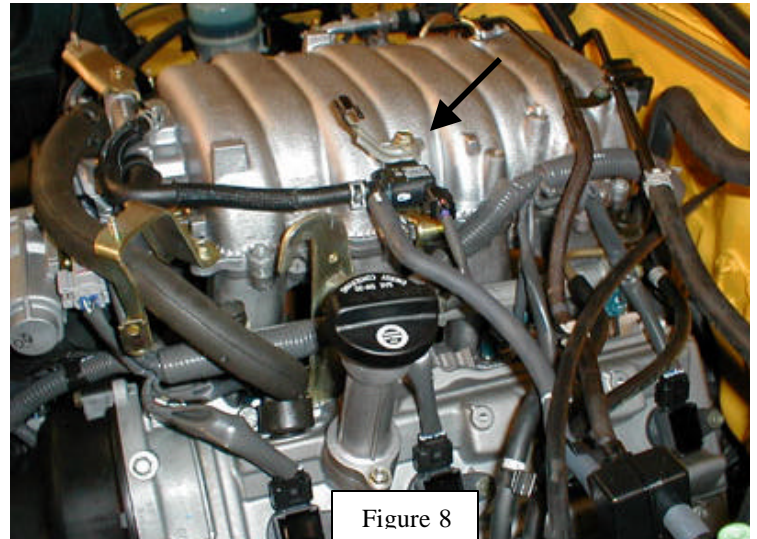

Figure 8
14. Remove driver-side EVAP Vacuum Switched Valve (VSV) and throttle cable bracket from upper intake manifold. On Tundra / Sequoia, one bolt secures both parts (Figure 8). On Land Cruiser and LX470, one bolt secures EVAP VSV and a second bolt secures the throttle cable bracket.